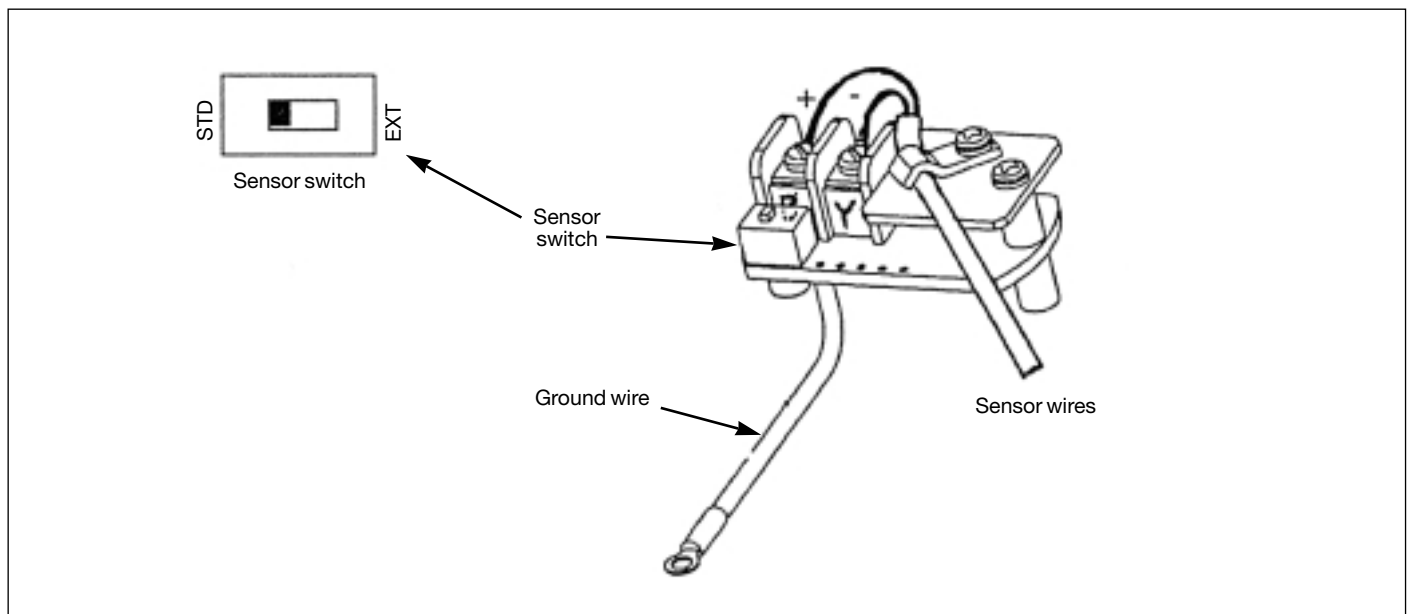

Figure 25. Preamplifier Assembly
- Feed the yellow and brown sensor wires through the strain relief clamp on the bottom of the preamplifier board. Tighten the clamp and connect the sensor leads to the terminal block. The color coding is important. Check to see that this is correct. See Figure 25.
- Feed the yellow and brown sensor wires through the strain relief clamp on the preamplifier board. Tighten the clamp and connect the sensor leads to the terminal block. The color coding is important. Verify that it is correct. See Figure 25.
- Feed the yellow and brown sensor wires through the strain relief clamp on the pre-amplifier board. Tighten the clamp and connect the sensor leads to the terminal block. The color coding is important. Check to see that this is correct. See Figure 25.